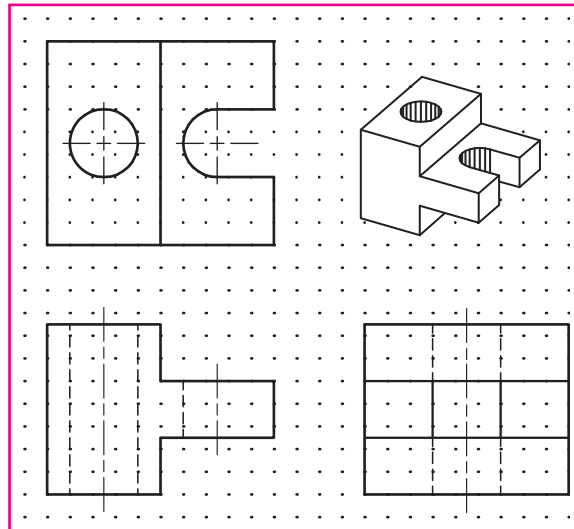

Fig. 12-14
6. Draw the top, front, and right-side views of the block support shown in Fig. 12-14. Use a grid spacing of .2 and a snap setting of .1. Consider using construction lines or rays to position the three views. For now, draw the hidden and center lines using very short lines. You may wish to change the snap spacing to .05.